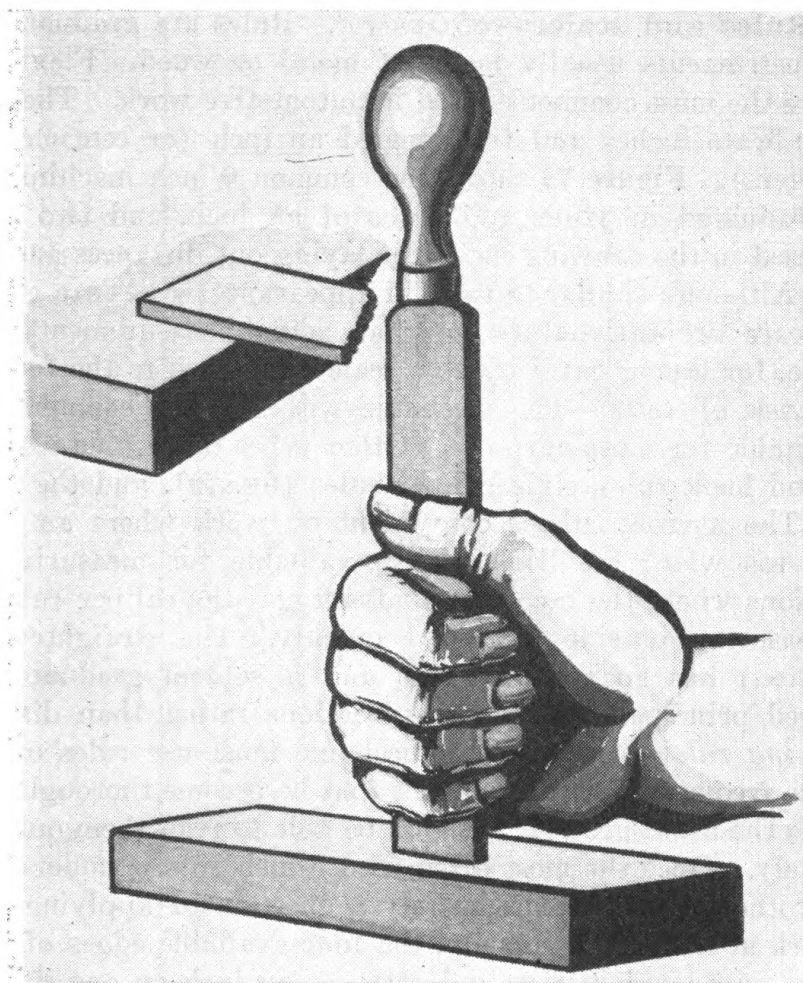

FIGURE 77.—Using oilstone to sharpen flat scraper.
c. Care of scrapers.—Keep scrapers (except the carbon scraper) sharp at all times, or they will not leave a smooth surface and will require more pressure than is necessary. The usual method of sharpening is first to grind the tool on a small emery wheel, then to finish the operation on an oilstone. To use the oilstone, proceed as shown in figure 77, first stoning the flat sides of the scraper and finally squaring up the end. In scraping any surface, apply pressure to the scraper on the cutting stroke only, otherwise the tool will soon become dull.
- (1) Keep hands free of grease, oil, or perspiration.
- (2) Keep hands high enough from the work to avoid striking a corner of it while scraping; these corners are often sharp and can give the hand a disagreeable and perhaps dangerous cut.
- (3) Be especially careful of the bearing scraper; its edges are very sharp.